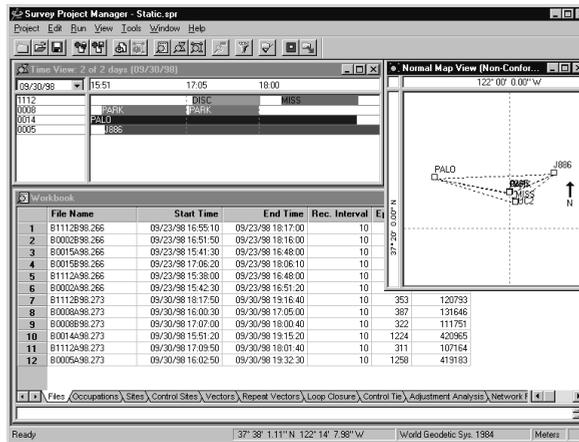

Figure 3.9. Typical Project
- The project opens with the **Time View**, **Map View**, and **Workbook** windows. Ashtech Solutions displays the project name in the title bar (Figure 3.9).